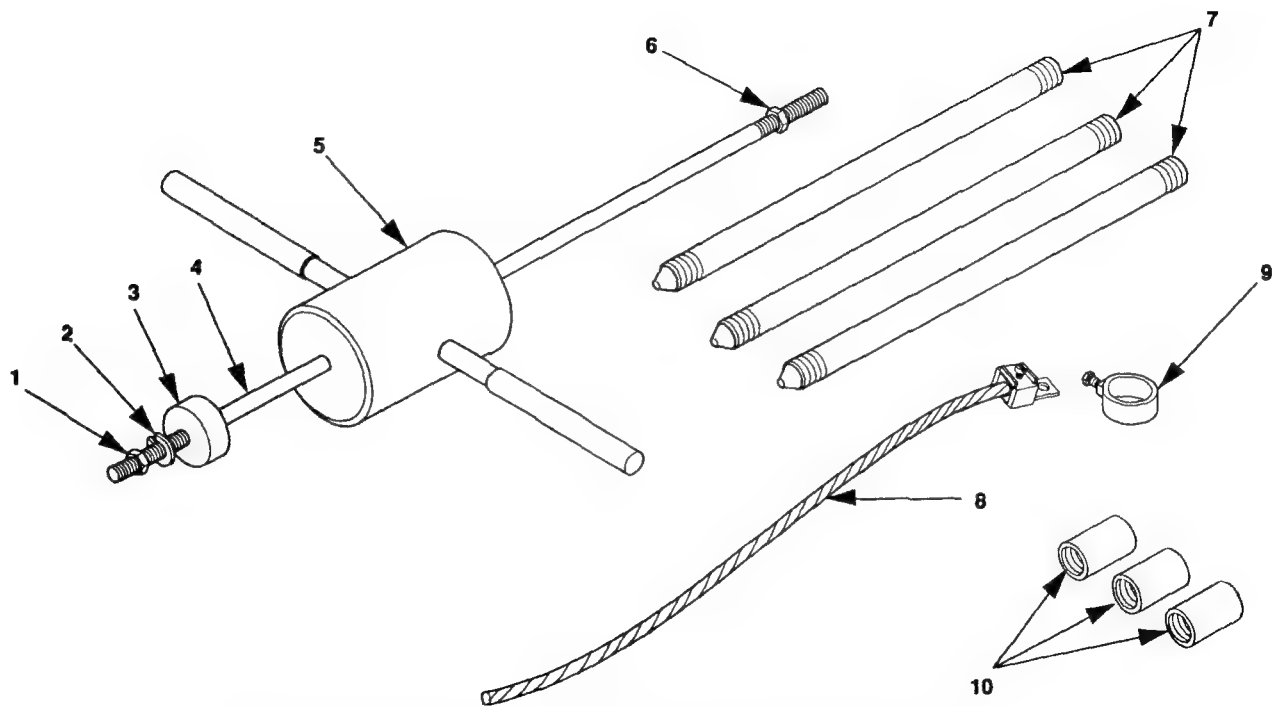

Figure 2-5. Ground Rod, Grounding Strap, and Slide Hammer.
- a. Remove ground rod, grounding strap, and slide hammer (**figure 2-5**) from accessory box. Perform assembly steps (1) through (4).
- (3) Position hammer (5) on rod (4). Install nut (6) and tighten to end of threads on rod (4).
- b. Connect ground rod coupling (10) to ground rod (7) and screw slide hammer into coupling (10). Make sure that slide hammer rod (4) seats on ground rod (7).
- d. Remove slide hammer assembly and install another section of ground rod (7).
- e. Install another coupling (10) and the slide hammer assembly. Drive ground rod down until new coupling is just above ground surface.
- g. Connect clamp (9) and ground cable (8) to ground rod (7) and tighten clamp screw.
- h. Connect ground cable (8) figure 2-5 as follows.
- (1) Remove nut (6, figure 2-5) from end of rod (4) and retain.
- (2) Remove hammer (5) from rod (4) and thread nut (6) on end of rod to prevent loss.
- (3) Store hammer (5) and rod (4) with assembled parts in accessory box.